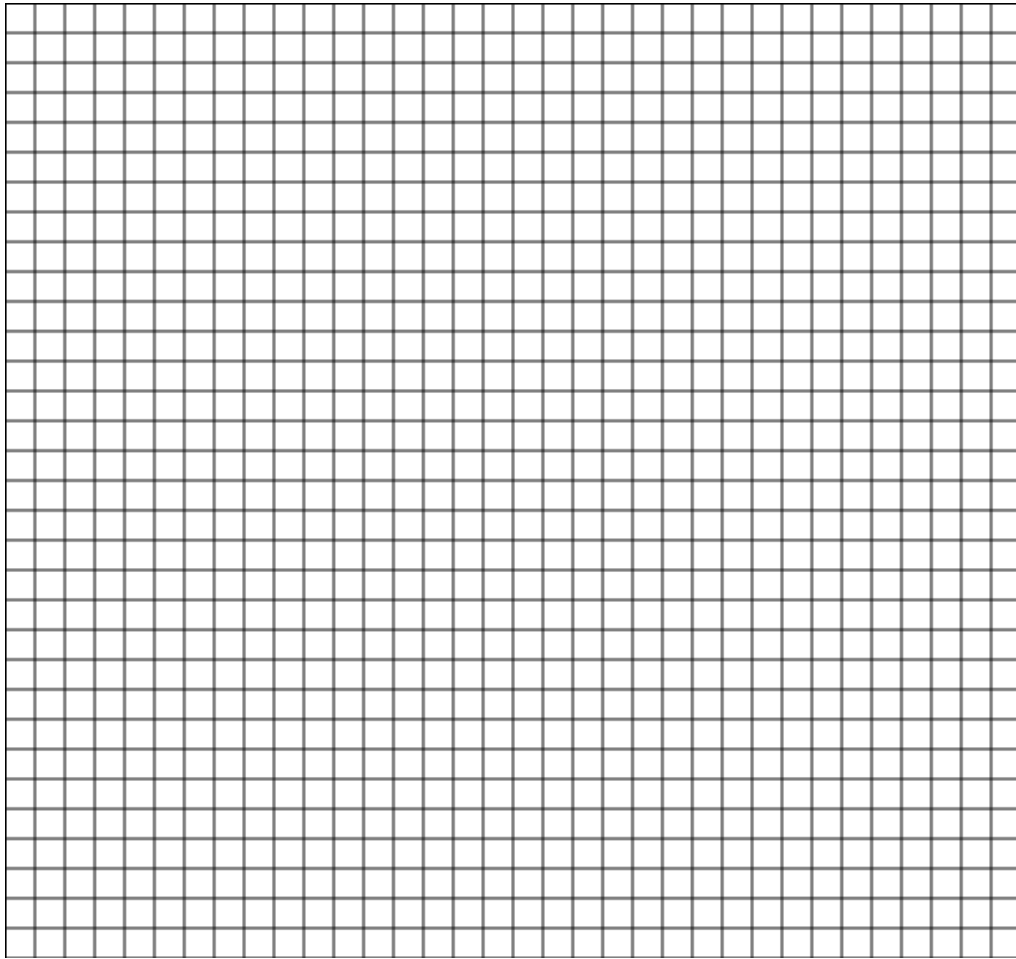

Figure 4
- d. Plot a graph (use Figure 4 below) of acceleration vs. $1/m$, using the Part II data (Table 2). Based on your analysis of the graph, what is the relationship between the mass difference and the acceleration of an Atwood's machine? From the slope of your line of best fit, calculate the acceleration due to gravity g_{exp} and record the results in Table 3, second column. Hint: look at what you plotted and compare to Eq. 4.